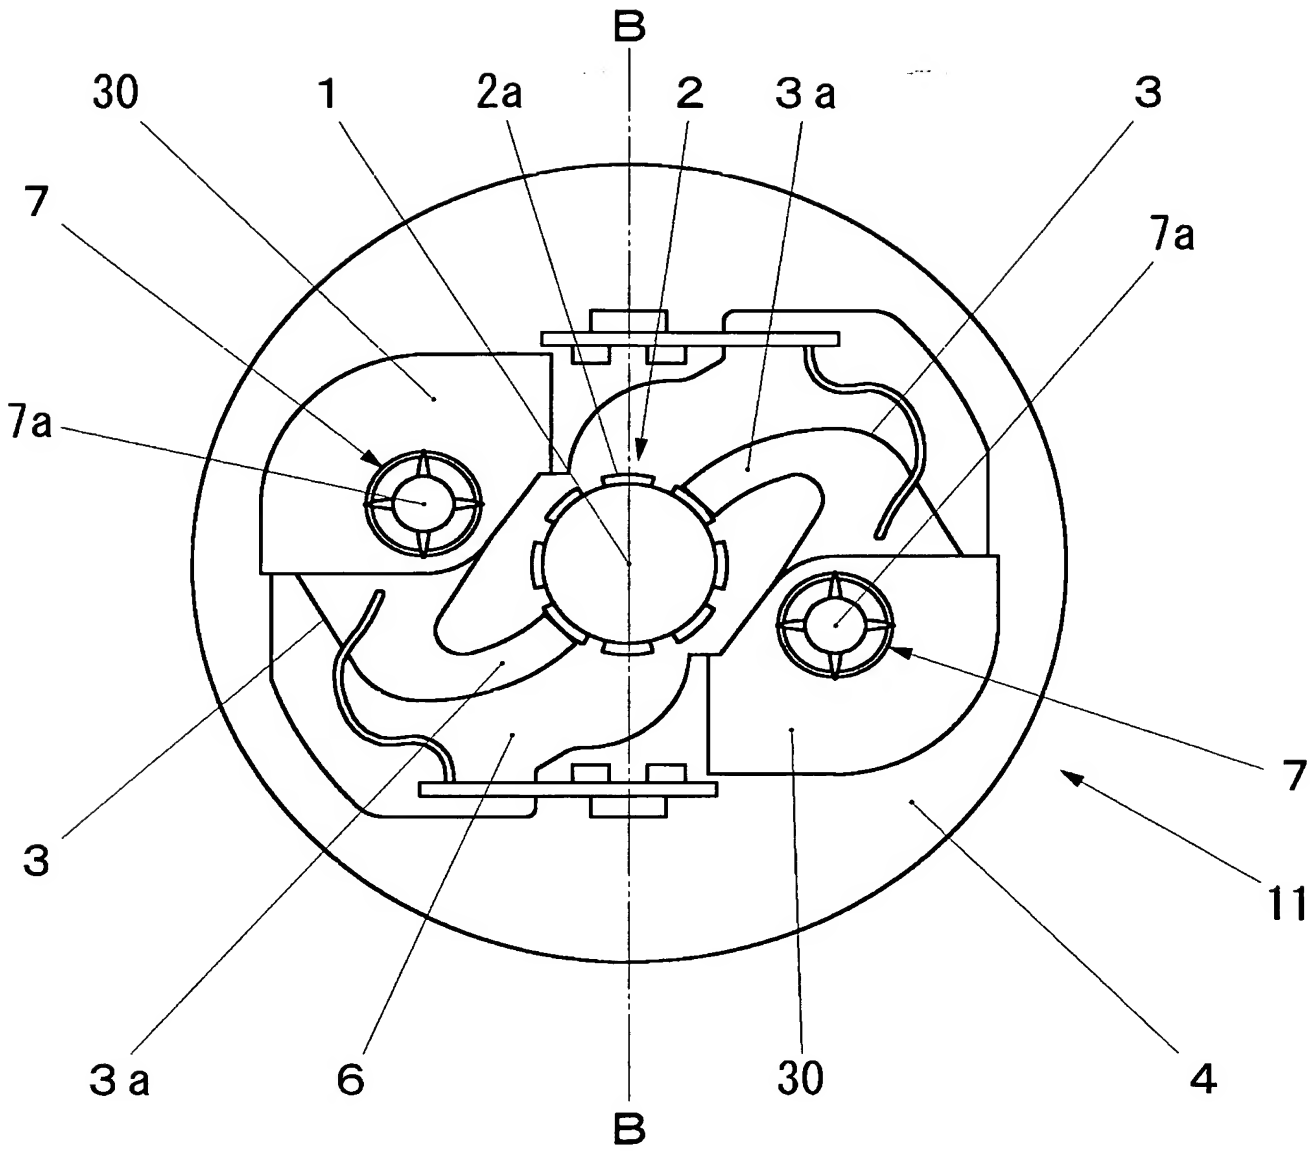

FIG. 1
Figure 1 is a schematic diagram of a circular device, likely a microfluidic chip or a small engine, showing internal components and flow paths. The diagram is labeled with various numbers and letters. Key components include a central circular region (1), two large curved regions (2, 3), and two smaller circular regions (4a, 4b). Flow paths are indicated by arrows, showing a clockwise direction. The device is enclosed in a circular housing (16). A dimension line at the bottom indicates a width 'C'.